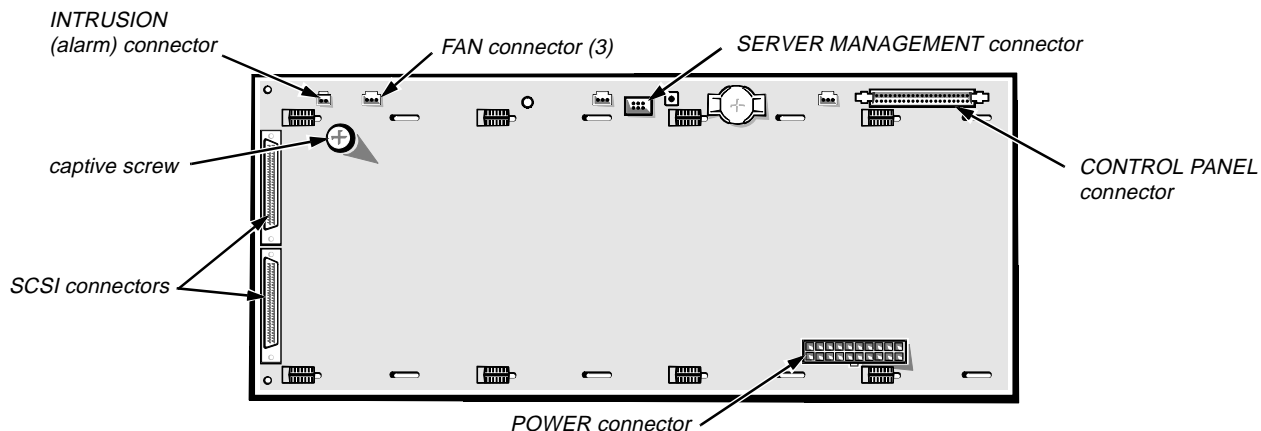

Figure B-11. SCSI Backplane Board
4. **Disconnect the “Y” power cable from the POWER connector on the SCSI backplane board (see Figure B-11).**